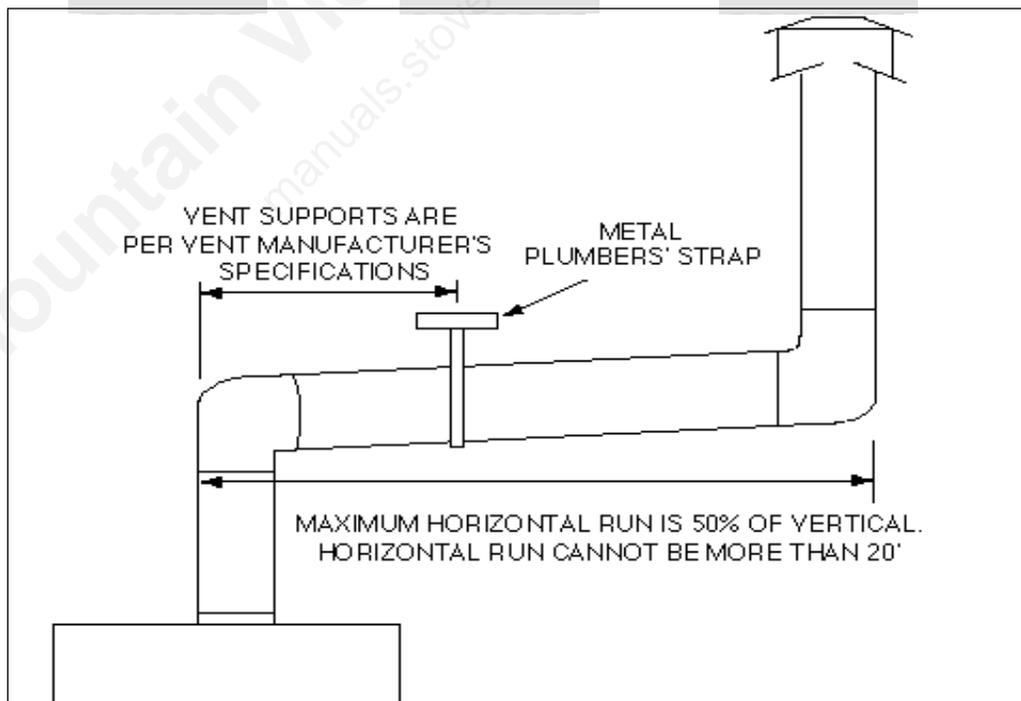

Figure 5
b. Vent Lengths. Various venting configurations are shown in *Figures 5* and *6* from which maximum vent runs can be determined.